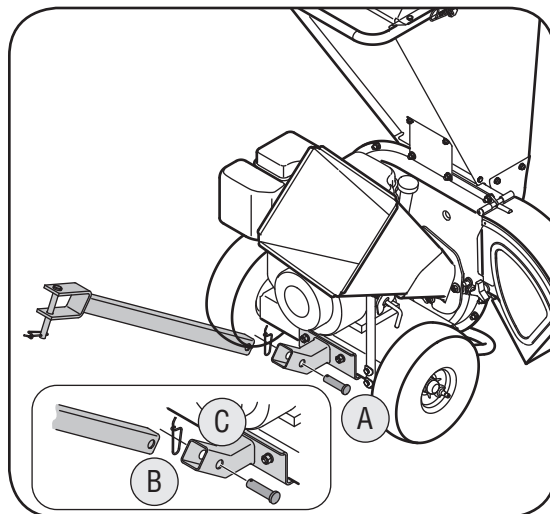

Figure 3
- a. Remove the spring pin and clevis pin from the end of the tongue. See Figure 3.
- c. Reinsert the clevis pin through aligning holes in both the tongue and the base. Fasten with the spring pin to secure. See Figure 3.